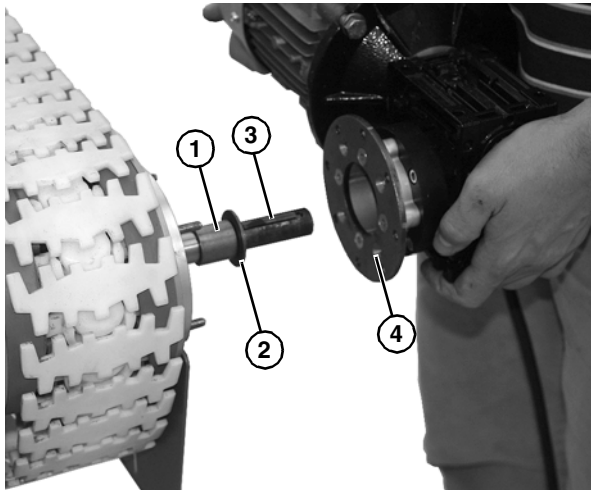

Figure 38
1. Install spacer (when applicable) (Figure 38, item 1), washer (Figure 38, item 2), and key (Figure 38, item 3) onto drive shaft.
2. Attach the motor (Figure 38, item 4) onto the drive shaft.